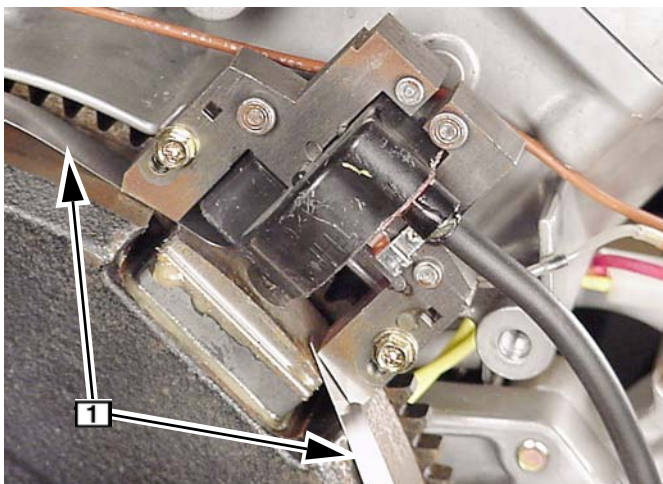

Fig. 156
2. Place thickness gauge **1** .005" - .007" (0.13 - 0.18 mm) between magnet and armature laminations, Fig. 156.